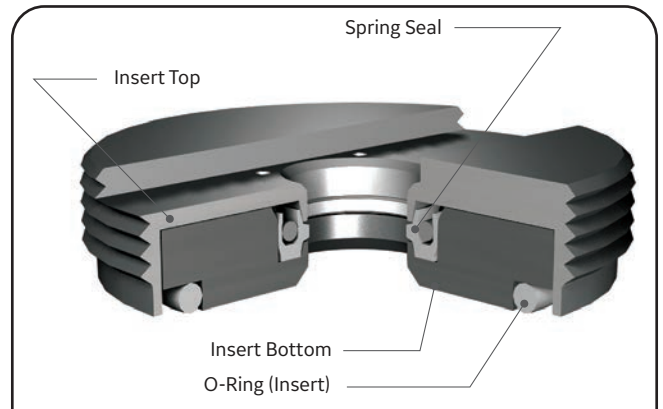

Figure 30: Insert Assembly
- e. Final Insert Assembly is shown in Figure 30.